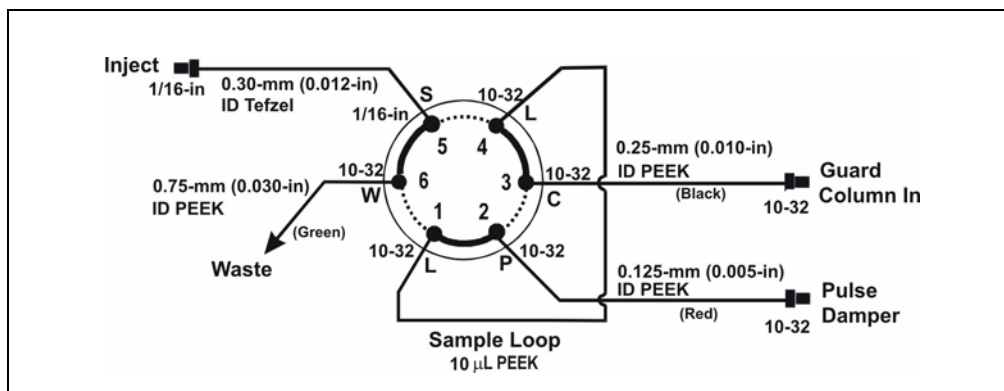

Figure 5-4. Injection Valve Plumbing
Figure 5-4 shows the injection valve connections. The injection valve is plumbed at the factory with all tubing and fittings for connection to the pump, injection port, and column. A 10 μ L PEEK sample loop (P/N 042949) is installed at the factory between ports L and L. Always replace the pre-installed 10 μ L loop with another of the same size.
3. Disconnect the sample loop from ports L and L on the injection valve (see Figure 5-4).